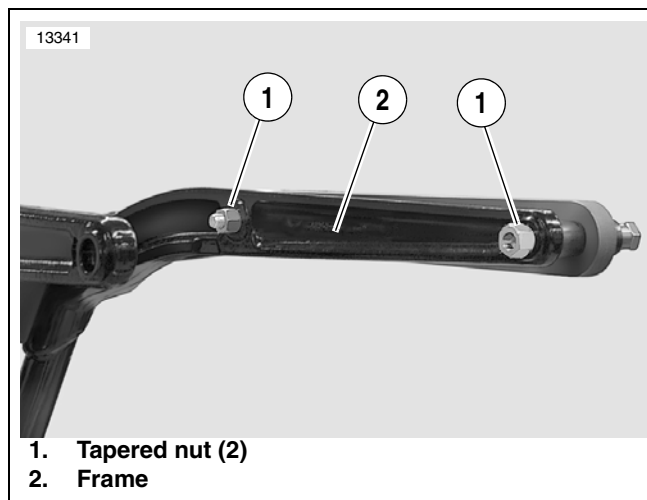

Figure 4. Frame Fixture Fasteners
4. Figure 4. Install nuts (1) on bolts with tapered end of nut facing frame.